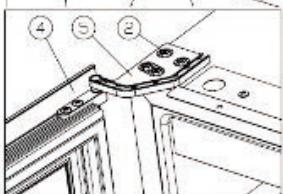

Figure 6
- Turn the door ④ 180 degrees, and insert the right lower hinge ⑤, screw tight M5*16 screws ②. [Figure 6] Door reversing is finished.